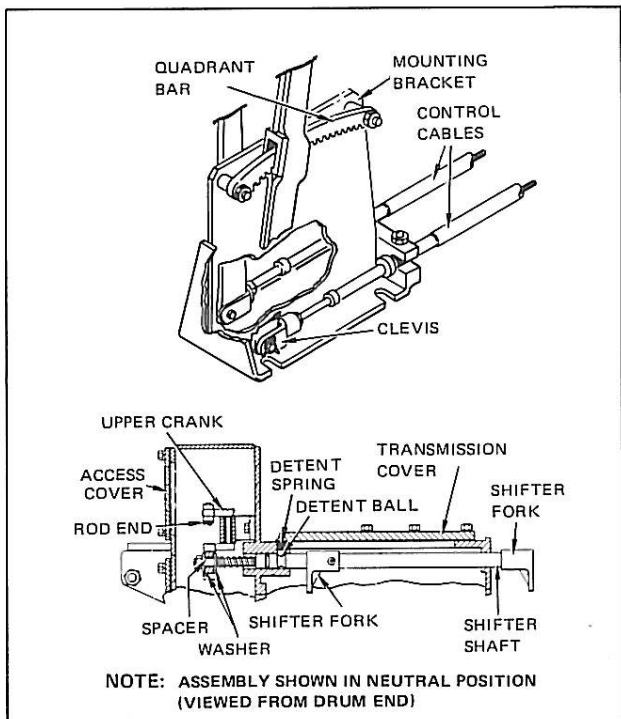

Figure 9. Direct Drive Winch Shifter Arrangement
### A. ADJUSTING THE CLUTCH HANDLEVER. (See Figures 9 and 11.)
1. Remove the LH upper access cover and place the shifter assembly in Neutral (see Figure 9). The shifter linkage will positively detent to this position.